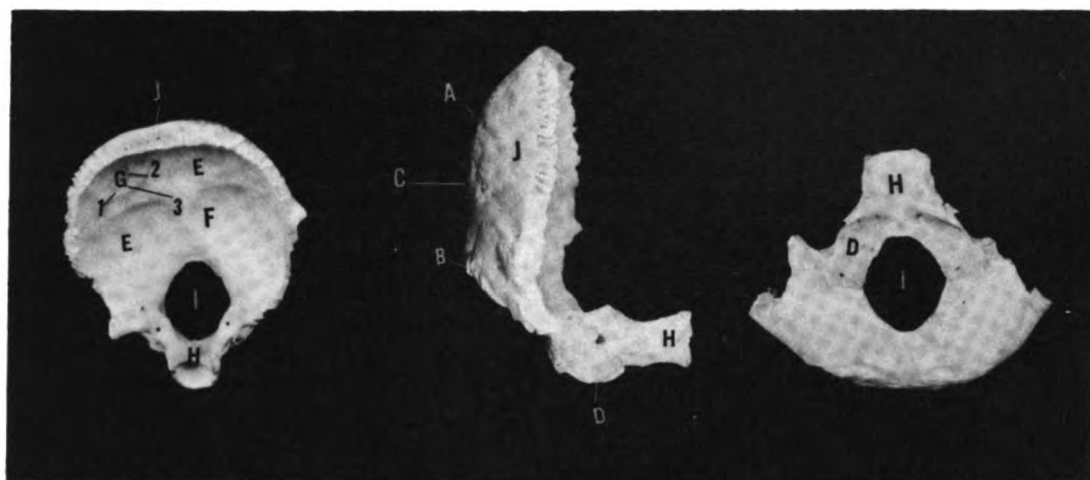

Figure 4-27 The Occipital Bone - Internal, Lateral and Inferior Views
The Occipital Bone. The occipital bone is the bone at the back of your head. When separated from the skull it resembles a scoop with a narrow anterior neck for the handle and the wide flaring scoop making up the back of the head. It has a number of structures both on the inside and outside surfaces of the bone. Those structures on the outside or external surface are the **SUPERIOR (A) AND INFERIOR (B) NUCHAL LINES**, **EXTERNAL OCCIPITAL PROTUBERANCE (C)** AND **THE OCCIPITAL CONDYLES (D)**. On the inside or internal surface are the **FOSSAE FOR THE BRAIN (E)**, **THE INTERNAL OCCIPITAL PROTUBERANCE (F)**, **GROOVES FOR THE TRANSVERSE (I), SUPERIOR SAGITTAL (2) and OCCIPITAL SINUSES (3) (G)** as shown in Figure 4-27.